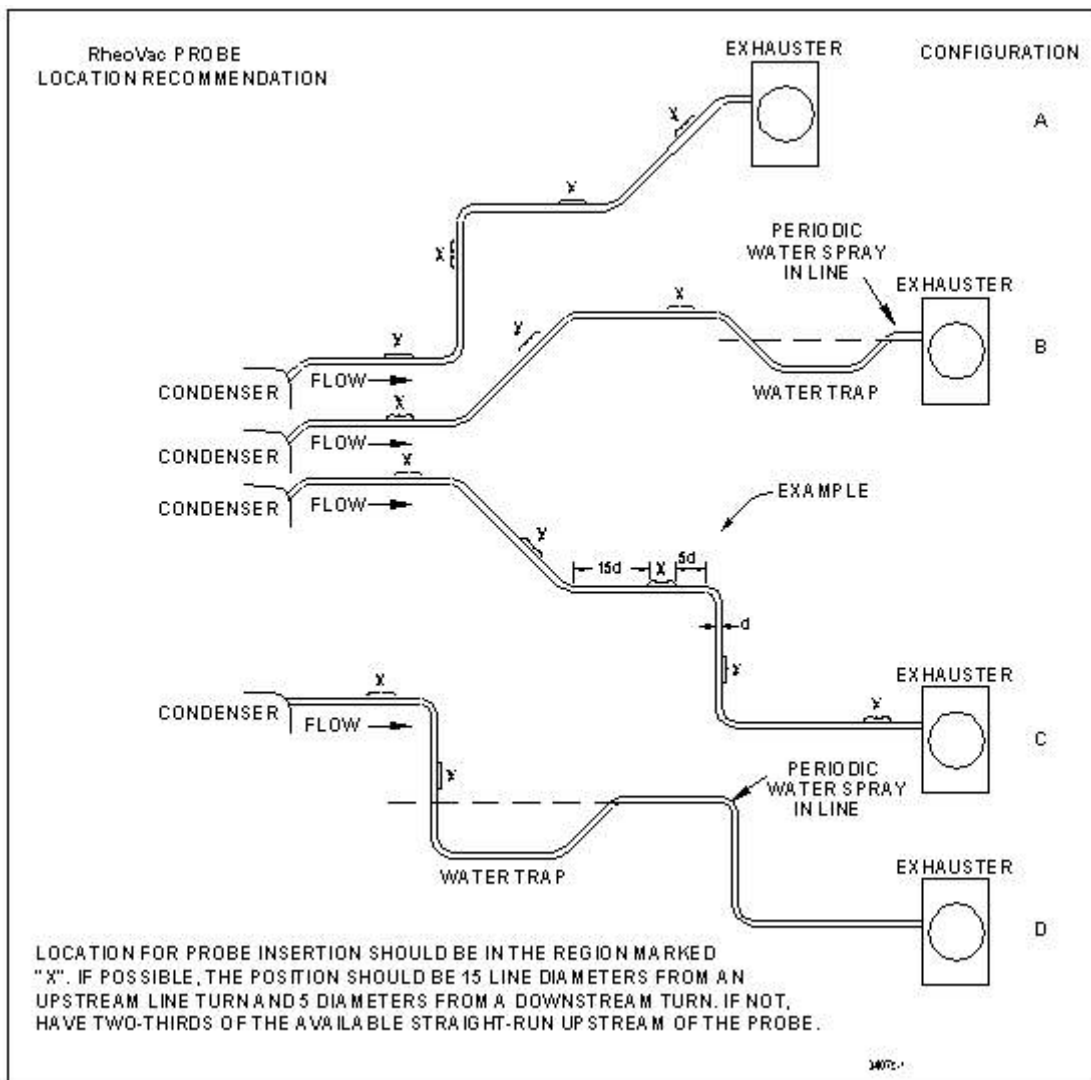

Figure 2 RheoVac Probe Insertion Recommendation
- Carefully select the best location for installation of the sensing probe. Adequate straight run and freedom from standing water in the line are vital to achieving optimal performance from the *RheoVac* system (See Figure 2).
- ▣ Select the installation site. The location should provide the probe's sensing area with well-established smooth flow, uniform system temperature and pressure, and consistent non-liquid phase flow medium. Refer to Figure 2 and select the most preferred location that fits your vacuum line configuration.
- ▣ DO NOT INSTALL THE PROBE DOWNSTREAM OF ANY "TRAP" SECTIONS AS SHOWN IN FIGURE 2, CONFIGURATIONS B AND D. Special installation instructions unique to your unit, where applicable, will be noted in SECTION 6.3 SPECIAL INSTRUCTIONS. Refer to this section now to review any special instructions.